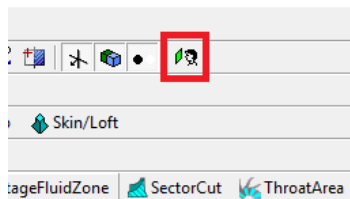

Figure 4: Look At Face/Plane/Sketch
6. To look normal to the YZ plane, click Look At Face/Plane/Sketch. This button can be found along the top ribbon of buttons and its symbol is shown in Figure 4.